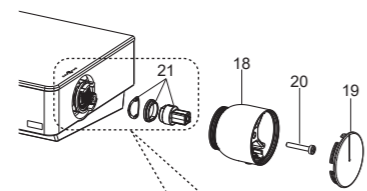

Fig.6
不要转动温控阀轴，将齿套组件(21)上的指示线对准塑料套上的指示线装入。安装温控把手(18)，使温控把手上的按钮垂直朝下。用螺丝刀锁紧螺钉(20)，安装把手上盖(19)(Fig.6)。
Do not turn the cartridge spindle. Install the adapter spline kit(21). Ensure the indicator line on the adapter spline aligns with the indicator line on the stopper. Install the temperature handle(18). Make sure the button on the temperature handle is downward vertically. Tighten the screw(20) with a screwdriver. Install the plug(19)(Fig.6).